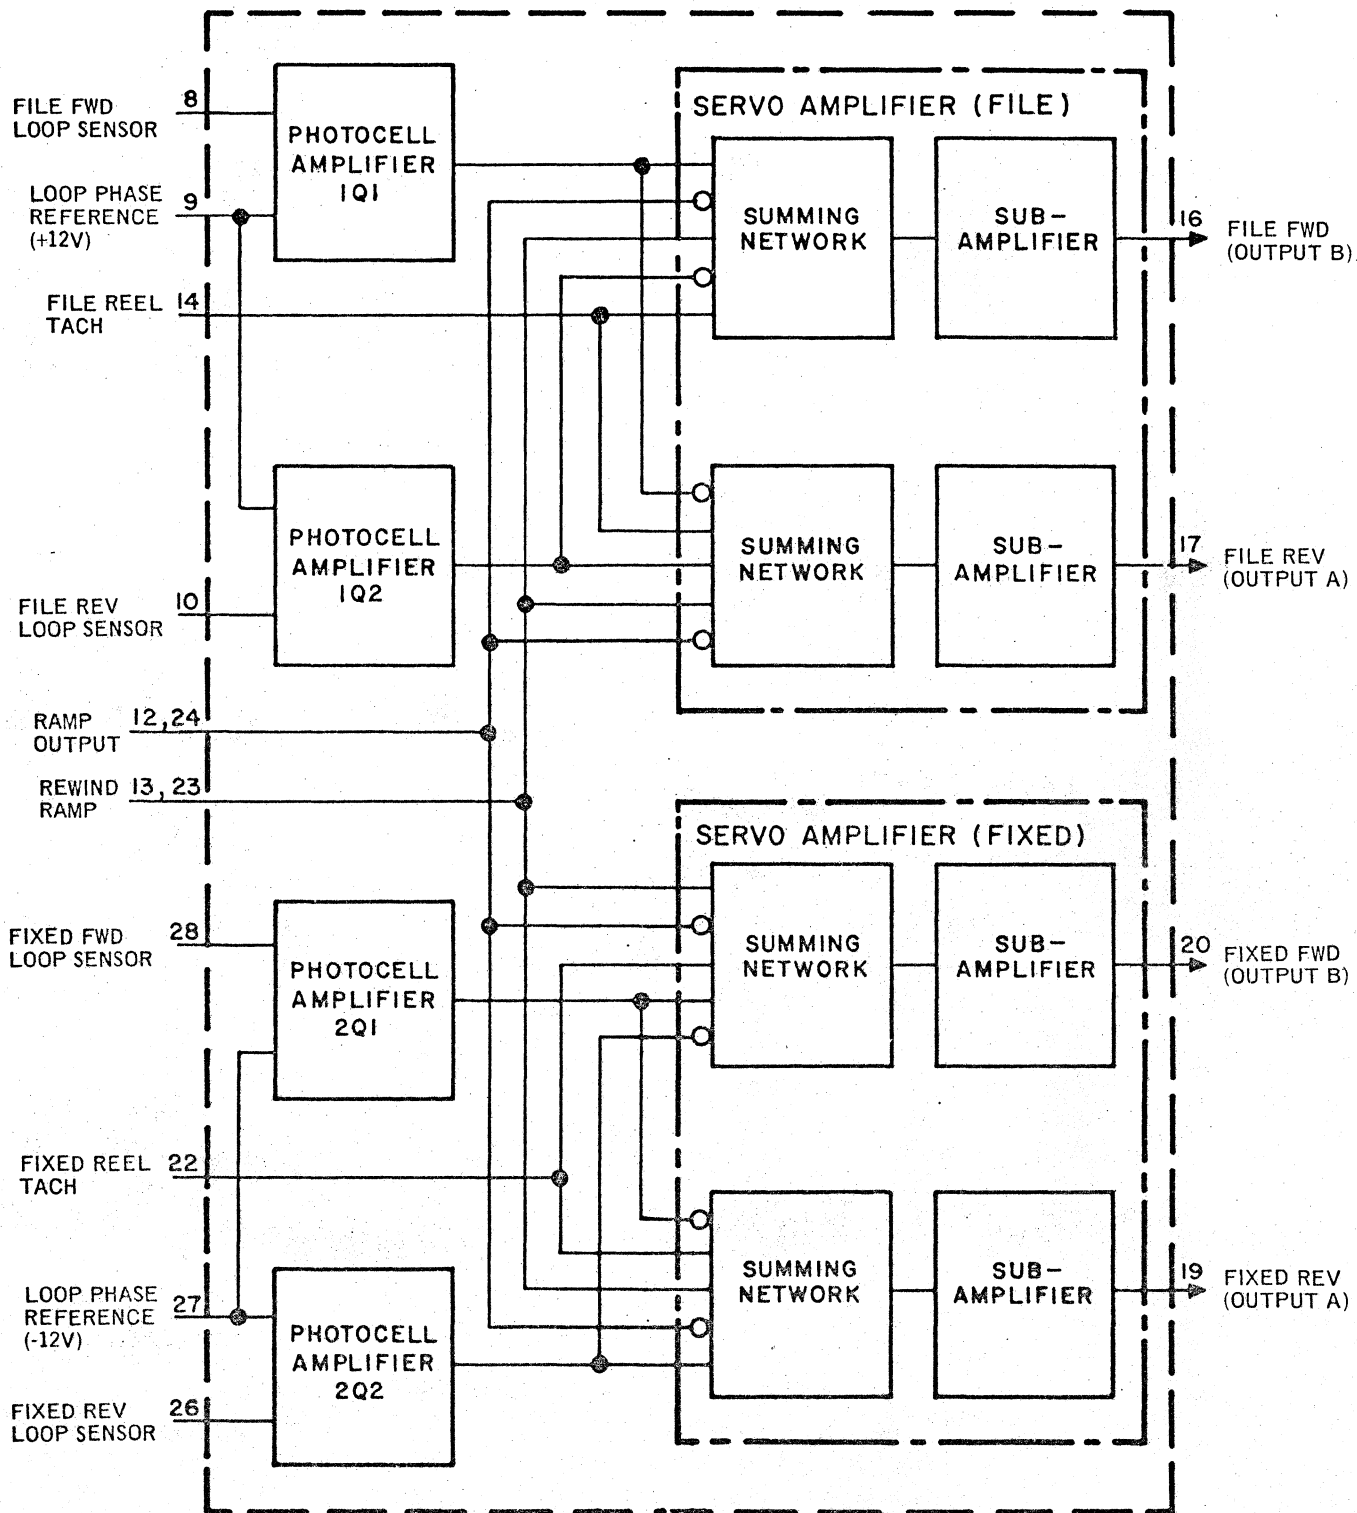

Figure 1
2. THEORY OF OPERATION. (See Figure 1.)